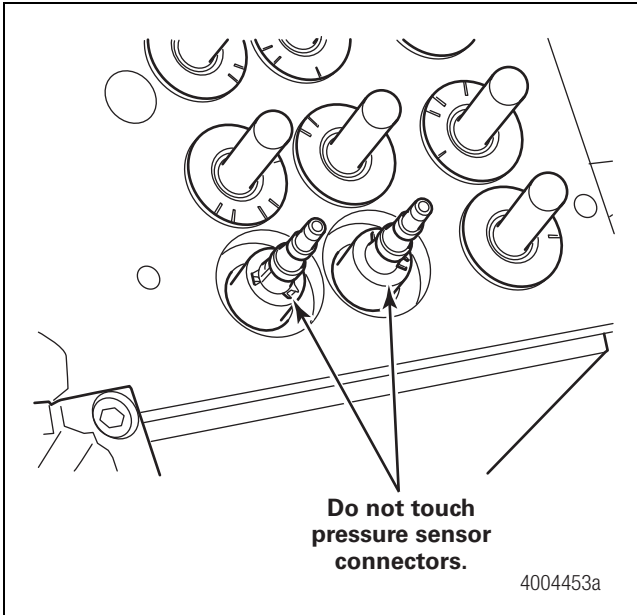

Figure 4.21
8. Use a clean rag to carefully clean the area around the valves formerly covered by the ECU. Do not touch the two pressure sensor connectors. Figure 4.21.